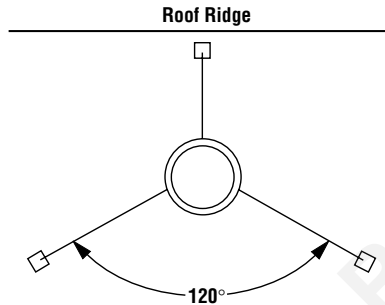

**Figure 30**
**Step 8.** The standard Security Chimneys FTF10 roof flashing assemblies include a storm collar. Slide the storm collar over outer chimney, rest on flashing spacers and align with top surface of flashing. Insert tab in slot, pull tight and bend tab back over slot. Seal storm collar to outer chimney with roof caulking or mastic around entire circumference of pipe. Also add extra roof caulking to the tab/slot area to seal completely against water penetration (Figure 30). Check all joints very carefully to ensure no water intrusion can take place.
Use the nut provided and TIGHTEN snugly. Do not overtighten as this might damage the chimney section (refer to Figure 30).